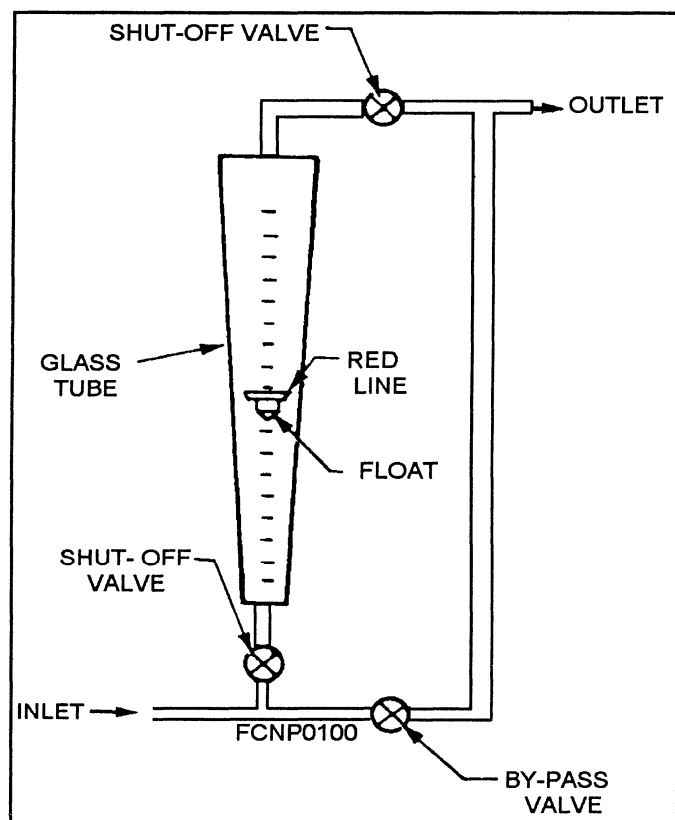

Figure 2-18.—Rotameter.
- **Rotameter:** The rotameter, shown in figure 2-18, is a variable area orifice meter that maintains a constant differential pressure with varying flow. The rotameter has a float positioned inside a tapered, tempered glass tube by the action of the distilled water flowing up through the tube. The flow restriction is the space between the float and the tube wall; this area increases as the float rises. The differential pressure is fixed, depending on the weight of the float and the buoyant forces resulting from the combination of float material and the distilled water's specific gravity. The tapered tube of the rotameter is usually glass, with calibration marks reading directly in gpm. The major advantage of a rotameter over a venturi meter is the visibility of the coolant, as it allows quick determination of excessive entrained air in the coolant.